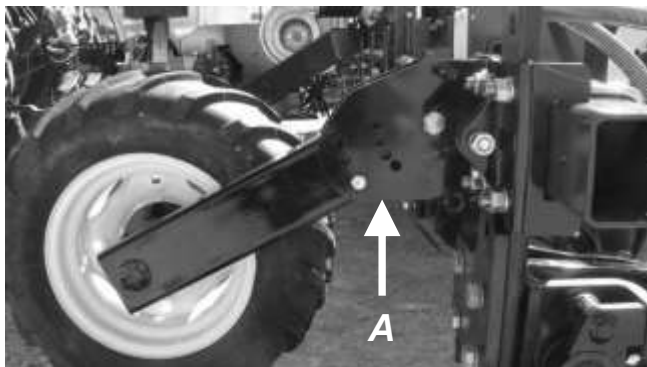

Figure 17
1. Once the depth of the disks is adjusted, lower the front toolbar and adjust the gauge wheels (page 39, 2). Use the combination of holes [figure 17, A] in a way that the ground following wing is parallel to the fix wing.